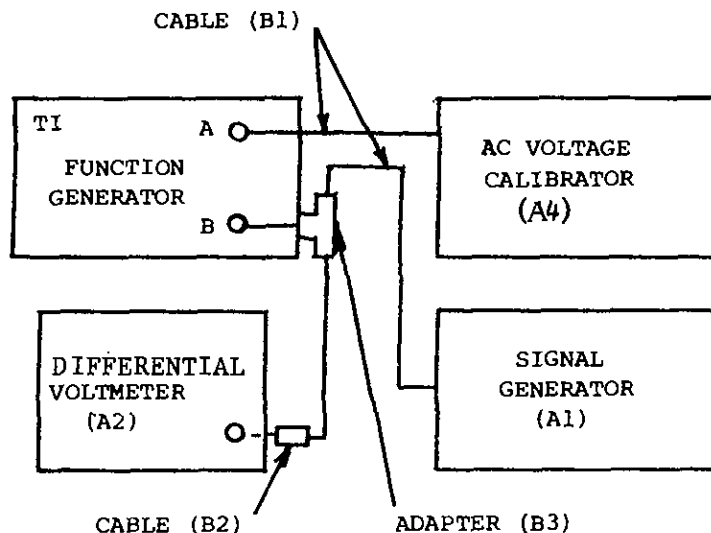
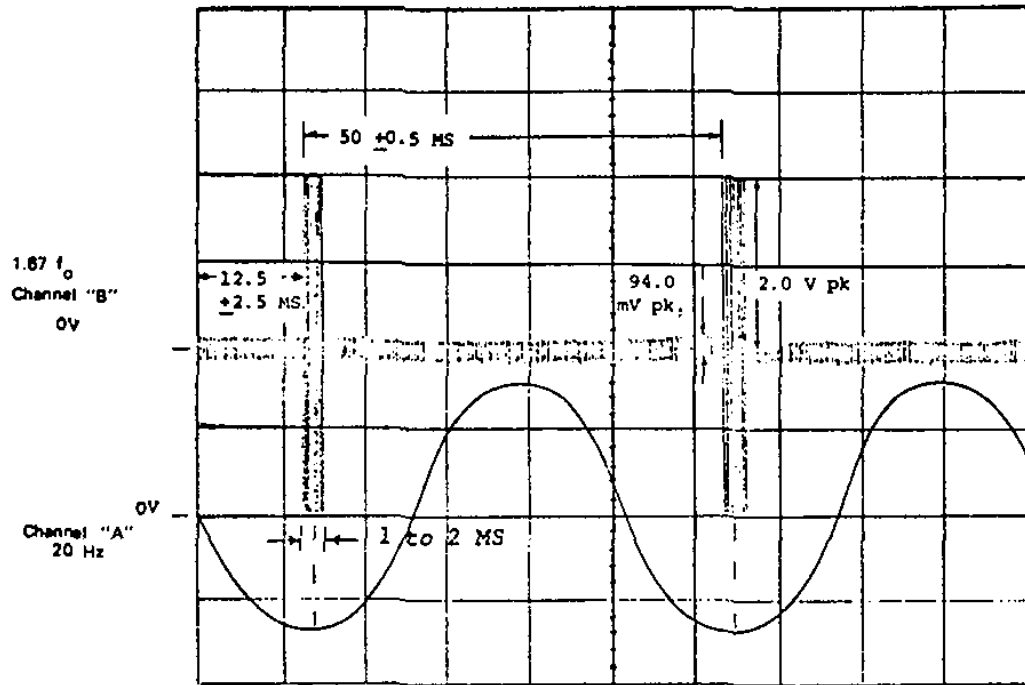

Figure A-1. Bandpass Signal Setup.
Figure A-2. Bandpass Signal
- (1) Connect ac voltage calibrator (A4) to TI FUNCTION GENERATOR "A" with cable (B1) and connector (B2). Set TI TEST SELECTOR to BANDPASS.
- (2) Adjust ac voltage calibrator controls for 6.0 kHz and 1.4142 V rms.
- (3) Connect differential voltmeter (A2) to TI A101 TP-0 (Lo/Black) and A101 TP-2 (Hi). The differential voltmeter must indicate between 0.0662 and 0.0672 V rms.
- (4) Connect TI A101 TP-7 to A101 TP-8 with electrical lead (B10) and two adapters (B7).
- (5) Disconnect differential voltmeter at A101 TP-2 and connect to A101 TP-3 (Hi). The differential voltmeter must indicate between 1.310 and 1.450 V rms.
- (6) Disconnect jumper at TI A101 TP-7 and TP-8. The differential voltmeter must indicate between 0.0620 and 0.0667 V rms.
- (7) Disconnect electrical leads. Connect equipment as shown in figure A-1.
- (8) Adjust ac voltage calibrator (A4) FREQUENCY controls for 1.67 V and output voltage controls for 1.4142 V rms.
- (9) Position signal generator (A1) frequency controls for 20 Hz and adjust AMPLITUDE control for a differential voltmeter (A2) indication between 1.9 and 2.1 V rms. Disconnect differential voltmeter.
- (10) Connect frequency counter (A3) to TI FUNCTION GENERATOR "B" and adapter (B3). Adjust signal generator frequency controls for a frequency counter indication between 49.9 and 50.1 milliseconds.
- (11) SET OSCILLOSCOPE (A5) channels "A" and "B" to dc coupled and connect channel "A" to TI TP-4. Connect channel "B" to TI TP-3. Connect oscilloscope common to TI TP-O. Connect EXT TRIG on oscilloscope to TI FUNCTION GENERATOR "B". Adjust oscilloscope controls to display the bandpass signal as shown in figure A-2.
- (12) WITH OSCILLOSCOPE CH 1 and CH 2 POSITION controls verify that negative peaks of CH 1 display is coincident with negative peaks of CH 2 display.
- (13) Utilizing oscilloscope TIME/DIV controls measure the interval between start of sweep and leading edge of first bandpass signal pulse. Oscilloscope must indicate between 10.0 and 15.0 milliseconds.
- (14) Utilizing oscilloscope DLY'D SWP function and DELAY TIME control, measure width of the positive portion of bandpass signal pulse. Oscilloscope indication must be between 1.0 and 2.0 milliseconds.
- (15) Utilizing oscilloscope DLY'D SWP function and DELAY TIME control, measure the time interval between leading edge of first bandpass signal pulse and second bandpass signal pulse. Oscilloscope indication must be between 49.5 and 50.5 milliseconds.
- (16) Connect oscilloscope A input to START connector and B input to STOP connector.
- (17) On the TI set the START switch to ON. The oscilloscope A input signal will go from a logic low to a logic high as the switch is set to ON (from 0 ± 0.5 V to 9.5 ± 0.5 V).
- (18) On the TI set the STOP switch to ON. The oscilloscope B input signal will go from a logic low to a logic high as the switch is set to ON. (from 0 ± 0.5 V to 9.5 ± 0.5 V).